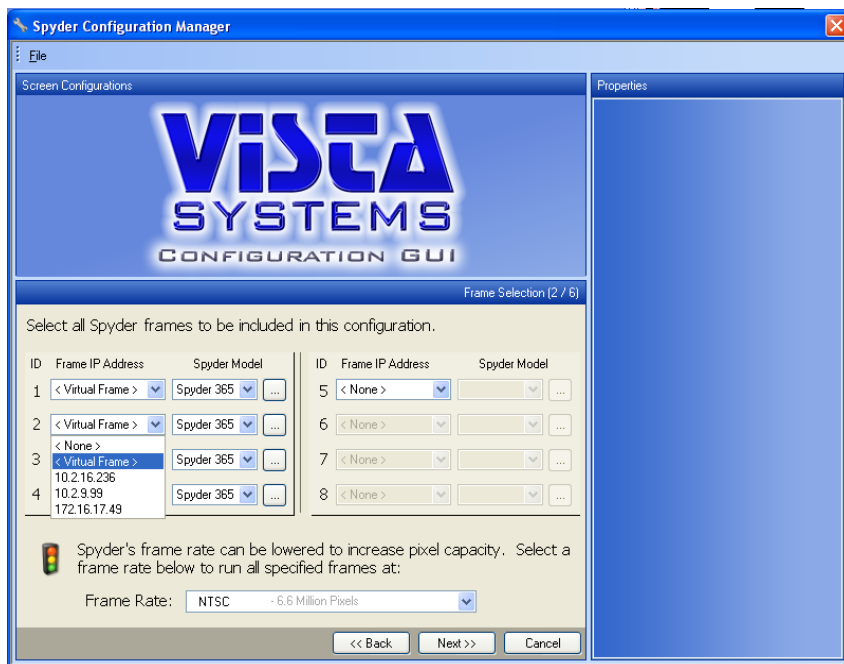

Figure 10: Configuration Manager frame selection
2. The second page of the welcome screen displays a list of eight (8) frame selectors with associated IP addresses, as shown in Figure 10. The IP Address of every Spyder frame on the network will appear in